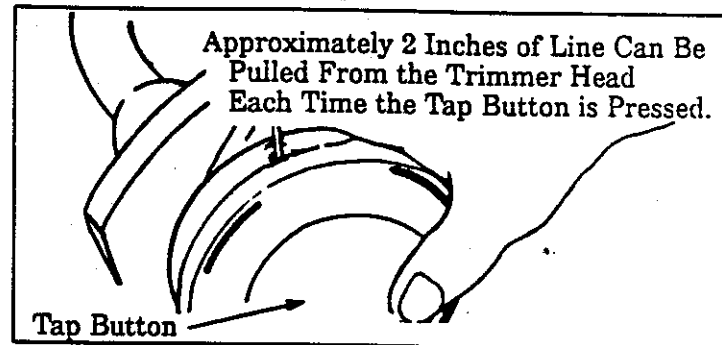

Figure 24
- i. Obtain the correct line length (4-6 inches) by pressing the Tap button (Figure 24) and pulling on the line again.
**NOTE:** Each time the tap button is pressed, approximately 2 inches of line can be pulled from the trimmer head. Figure 24.